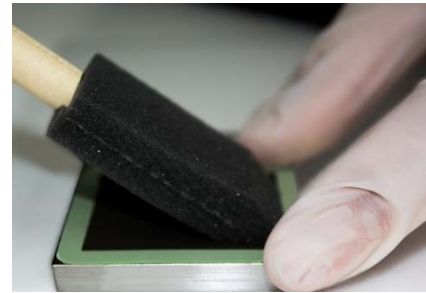

Figure 14
- Lightly holding the cell in place, evenly apply approximately 0.75 grams of LSM ink to the cathode active area (Figure 14).